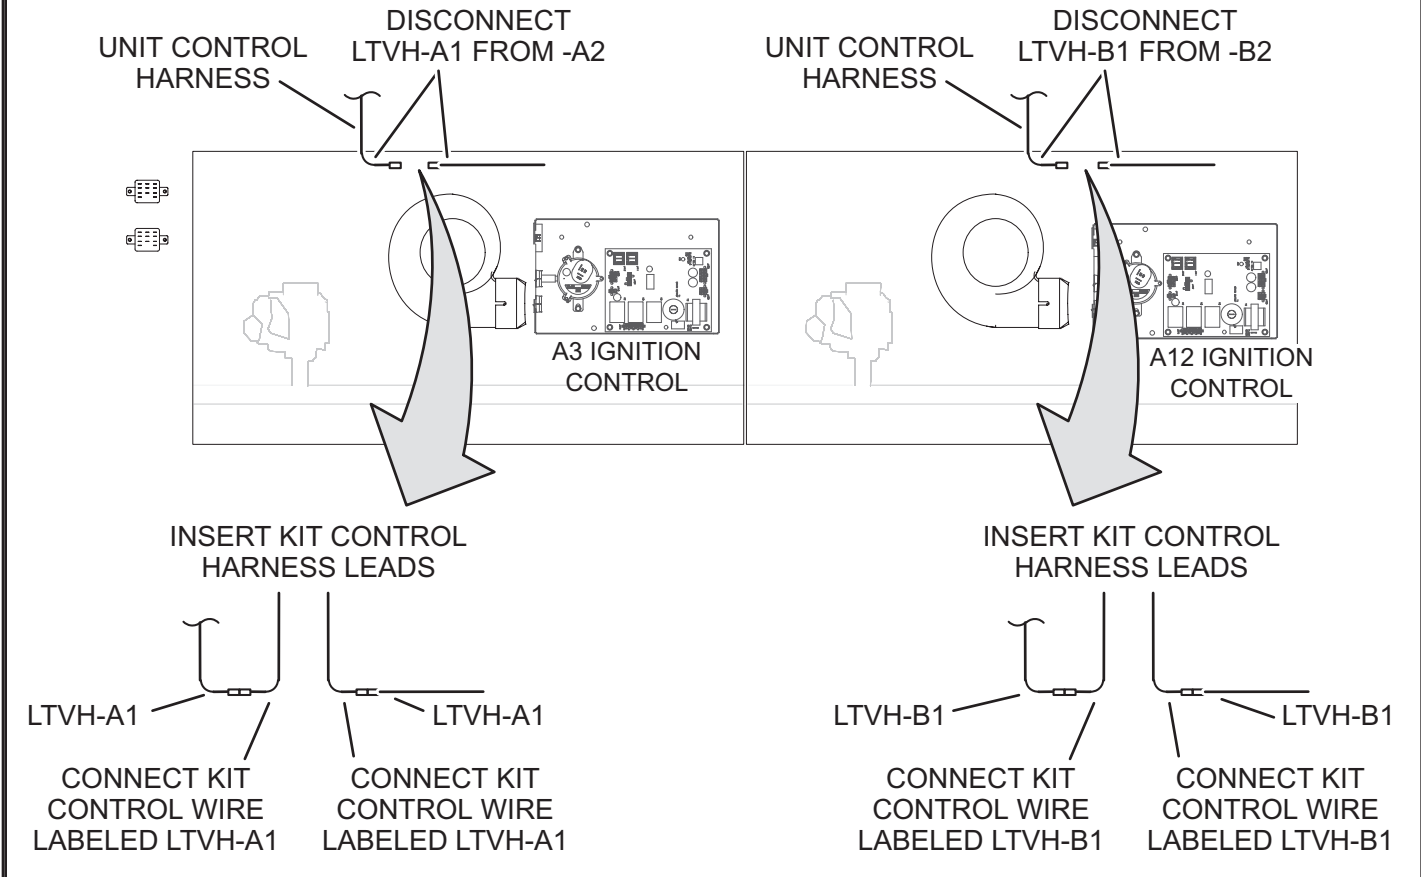

FIGURE 21
- 5 - Make wire connections as shown in FIGURE 20 and FIGURE 21.
See figure 21 to connect control harness leads labeled: